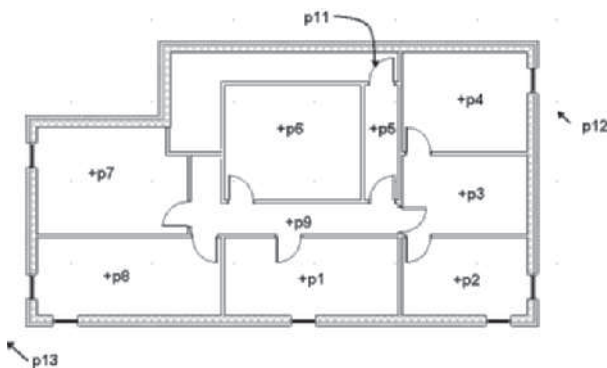
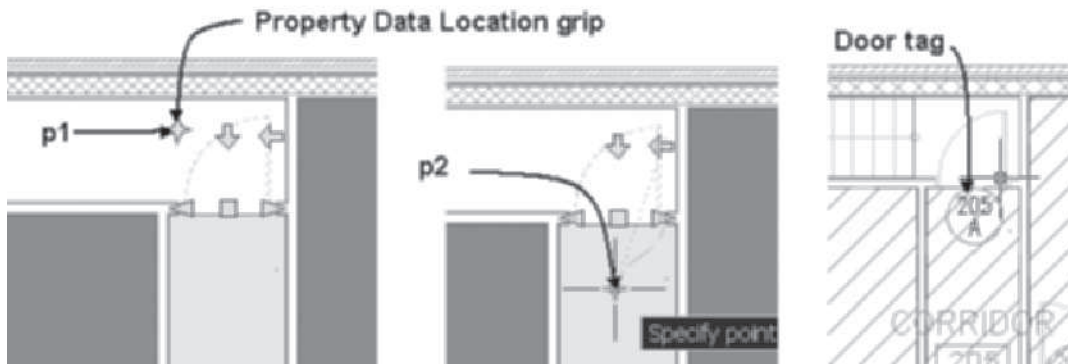

FIGURE 11.101 Placing tags for level 2
FIGURE 11.102 Editing the Property Data Location
28. Select the Office (Small) space tool from the Spaces tool palette. Set Tag = None, Create type = Generate, and Geometry Type = Extrusion. Select the spaces in the rooms at **p1, p2, p3, p4, p6, p7, and p8** as shown in Figure 11.101. Press ENTER or ESC to end the command.
29. Select the Corridor space tool from the Spaces tool palette. Edit the Create type to Generate and Tag to None. Select a point near **p5** and **p9** as shown in Figure 11.101. Press ENTER or ESC to end the command. A space is not defined for stairway since this space spans two levels and was tagged in Floor 1.
Select object to tag: *(Select the space at p1 as shown in Figure 11.101.)*
Select objects to tag: *(Choose the remaining spaces in the following order: p2, p3, p4, p5, p6, p7, p8, and p9 as shown in Figure 11.101. Press ENTER to end the selection. Click OK to dismiss the Edit Property Set Data dialog box. Press ESC to end the command.)*
35. Select the tag for the space of **p9** as shown in Figure 11.101. Select the grip of the tag and drag the tag down into the corridor space.
Select object to tag: *(Select the door at p11 as shown in Figure 11.101.)*
Select objects to tag: *(Select the doors and create a crossing selection from point p12 to p13 as shown in Figure 11.101.)*
38. To link the exterior doors to a space, select the door at **p11** as shown in Figure 11.101 and choose **Open Reference** from the External Reference tab. Select the door at **p1**, as shown in Figure 11.102, to display its grips. Drag the **Property Data Location** grip from point **p1** to a point near **p2** as shown in Figure 11.102. Press ESC to clear the grips.
40. Click **Reload FLOOR 2** of the **External Reference File Has Changed** tip located in the lower-right corner. The door mark updates to reflect the space as shown at the right in Figure 11.102.